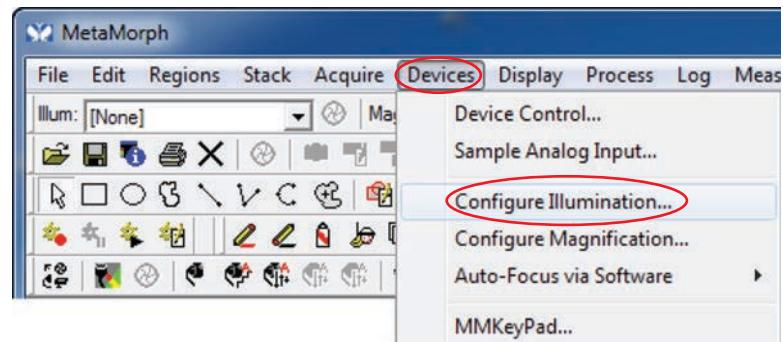

Figure H-21. Configure Illumination Menu Option
3. From the Devices drop-down menu, select “Configure Illumination” as shown in Figure H-21.